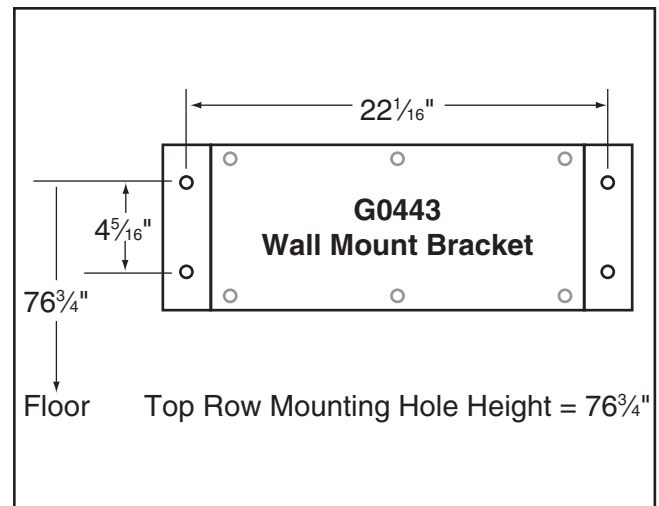

Figure 9. G0443 wall mounting layout.
2. Copy the mounting hole layout pattern from the motor housing (see **Figure 9**) to the wall mounting board, making sure the **Top Row Mounting Hole Height** is at the height indicated in **Figure 9**.
1. Copy the mounting hole layout pattern from the motor housing to your wall, making sure the **Top Row Mounting Hole Height** (see **Figure 9** on **Page 17**) is correct for your dust collector.